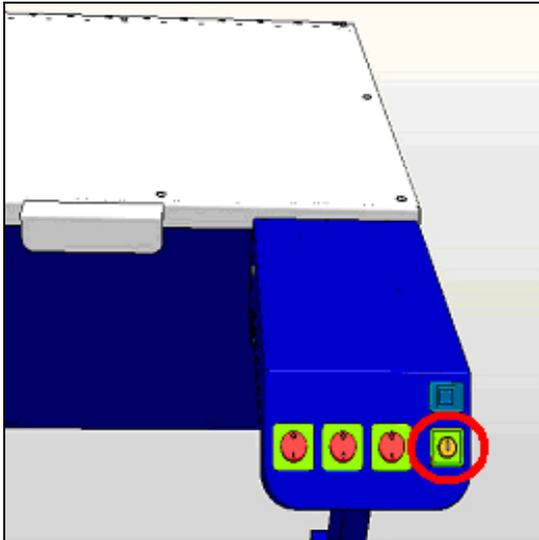

Figure 46: Activating the detachable-key switch
- To switch on the lasers in the supply unit, activate the detachable-key switch on the main switch board (see Figure 46).